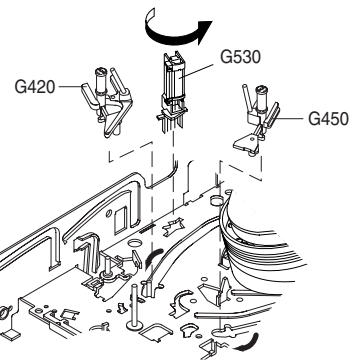

Fig. 19
- Slide the right threading roller unit (G450, Fig. 19) in unthreading direction then remove it.
- Slide the left threading roller unit (G420, Fig. 19) in unthreading direction then remove it.
- Turn the full erase head (G530, Fig. 19) counterclockwise then remove it.